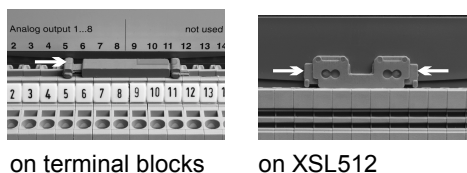

Fig. 24. Unlocking the safety latches
1. Unlock the safety latch(es) as is depicted in Fig. 24.